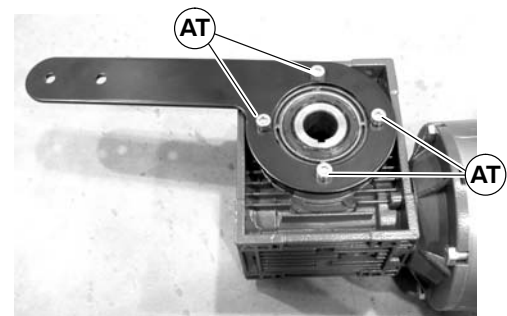

Figure 18
2. If required, change gearmotor position by removing four (4) screws (AT of Figure 18). Rotate gearmotor mounting plate to other position and replace screws (AT). Tighten to 200 in-lb (22.5 Nm).